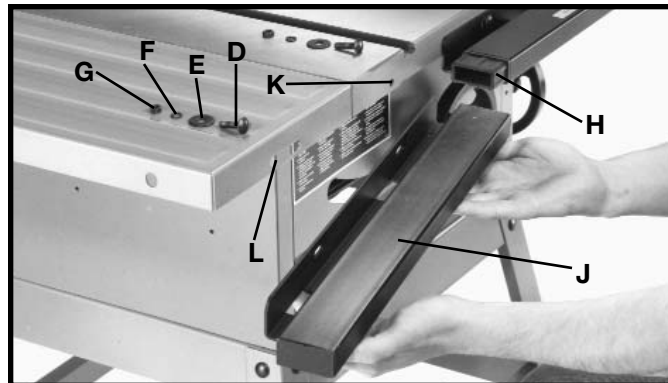

Fig. 16
3. Assemble front left guide rail (J) Fig. 16, onto extension connector (H). Align the two slotted holes in guide rail extension (J) Fig. 16 with hole (K) in table and extension wing (L). Insert a M6x1x20mm carriage head screw (D) Fig. 16, through the two holes in the front left guide rail, and the saw table. Place a M6.4 flat washer (E), and a 6.1 lockwasher (F) onto the carriage head screw (D). Thread a M6x1 hex nut (G) onto the carriage head screw (D) and hand tighten only. **NOTE: TIGHTEN HARDWARE JUST ENOUGH TO HOLD RAIL IN PLACE AT THIS TIME.**